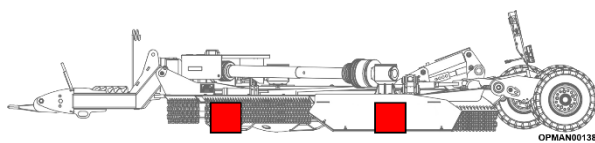

Figure 5.65
- 5.6.3.4 Fully support the centre and wing decks of the machine with fixed stands or substantial blocks; see Figure 5.65.